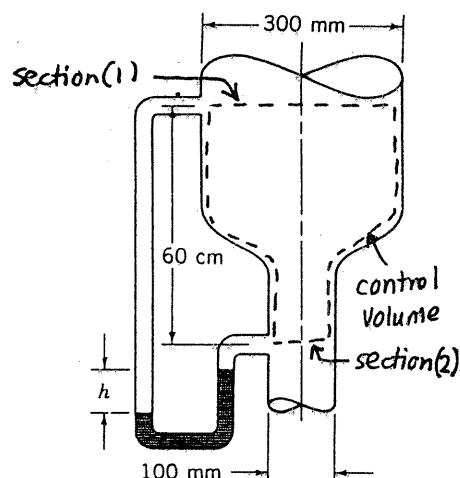

FIGURE P5.90
5.90 Oil ($SG = 0.9$) flows downward through a vertical pipe contraction as shown in Fig. P5.90. If the mercury manometer reading, h , is 100 mm, determine the volume flowrate for frictionless flow. Is the actual flowrate more or less than the frictionless value? Explain.